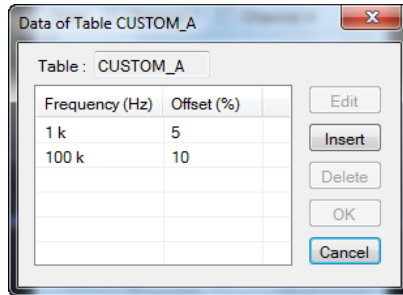

Figure 2-56 Custom FDO table data dialog
- 5 The selected custom FDO table data dialog is displayed as shown in Figure 2-56.